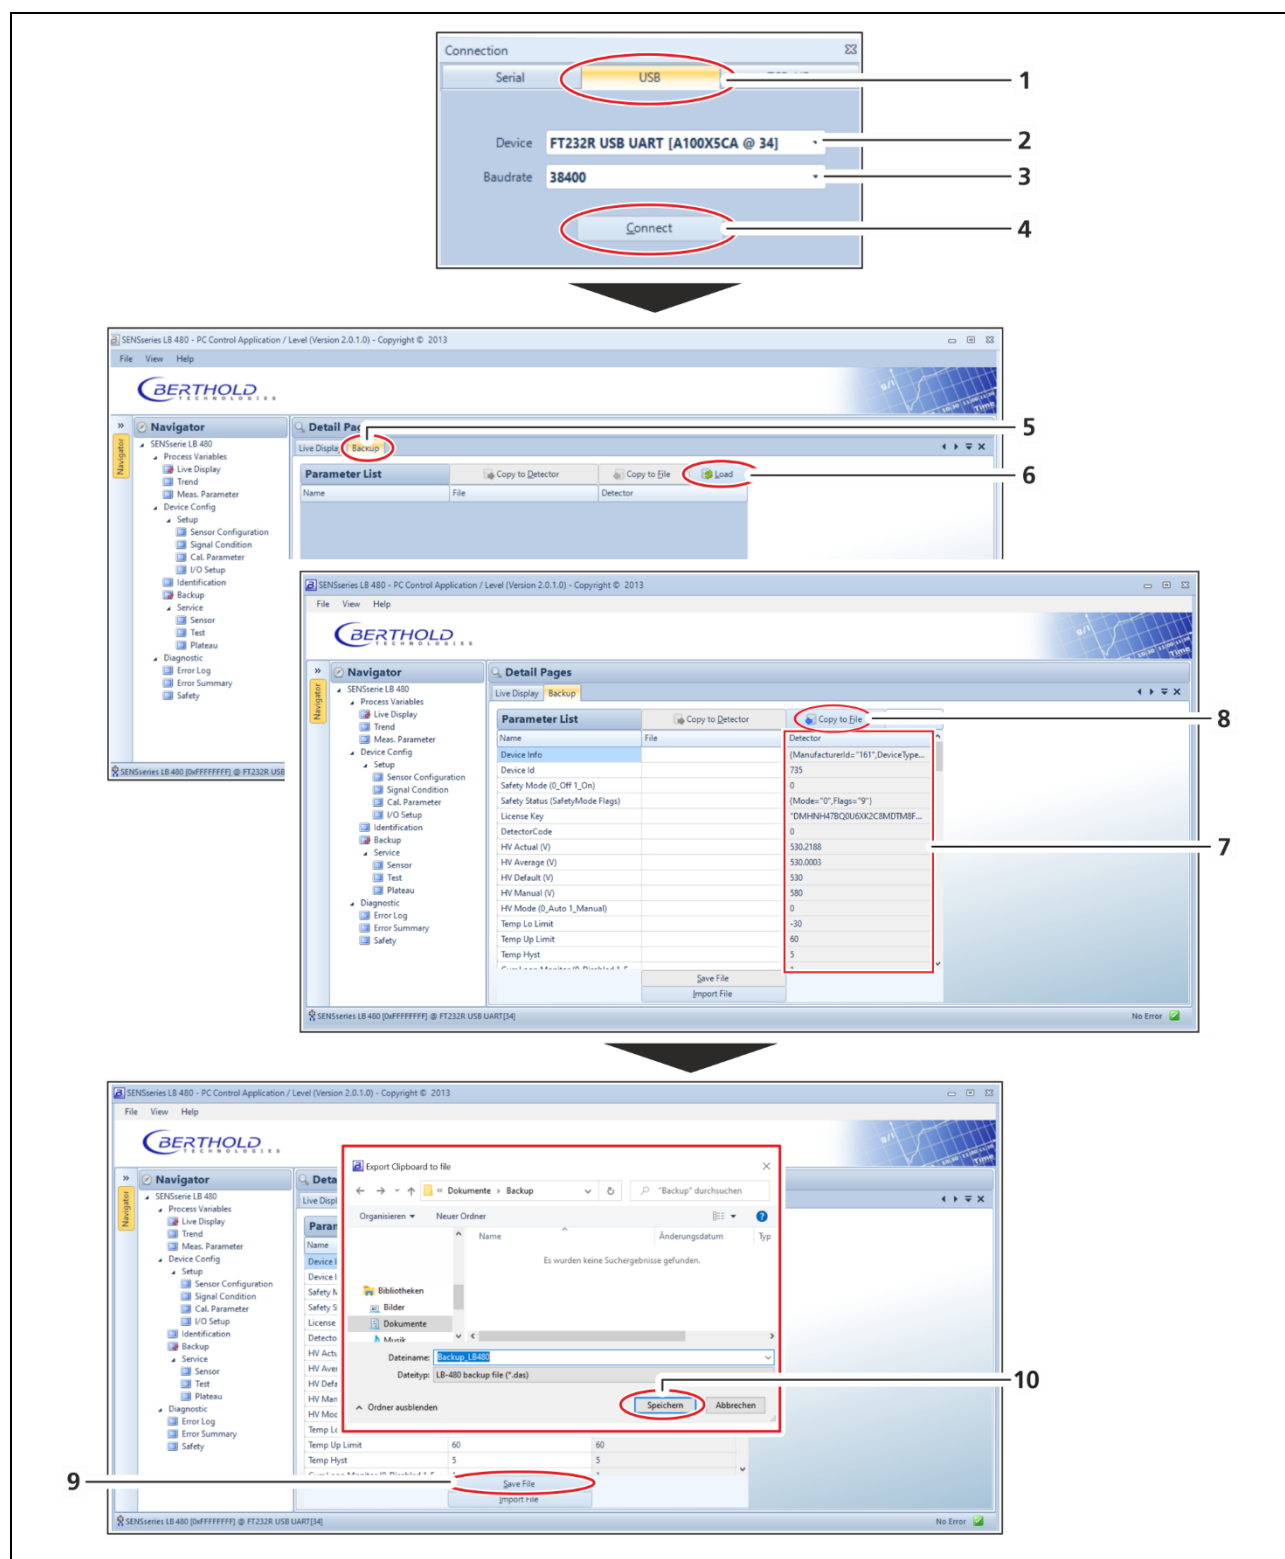

Fig. 2 Data backup using LB 480-PC UserInterface
8. Start the software *LB 480-PC UserInterface* (Level, Density or LevelSwitch) and click on the tab "USB" (Fig. 2, Pos.1).
9. Select the service modem under "Device" (Fig. 2, Pos.2).
10. Select 38400 Baud under "Baudrate" (Fig. 2, Pos.3).
11. Click on <Connect> (Fig. 2, Pos.4).
12. In the menu tree **Device Config ▶ Backup** (Fig. 2, Pos.5) click on <Load> (Fig. 2, Pos.6).
- ▶ All parameters are displayed in the column “Detector” (Fig. 2, Pos.7).
13. Click on the button <Copy to File> (Fig. 2, Pos.8).
14. Click on the button <Save File> (Fig. 2, Pos.9).
15. Select a location for the backup file and click on the button <Save> (Fig. 2, Pos.10).